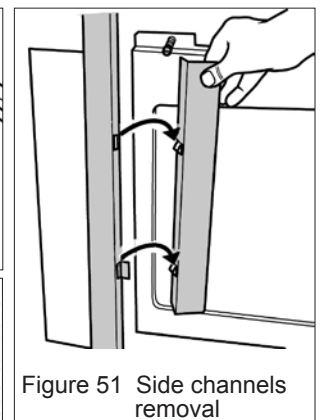

Figure 51 Side channels removal
- Lift and unhook the two side channels. See figure 51.